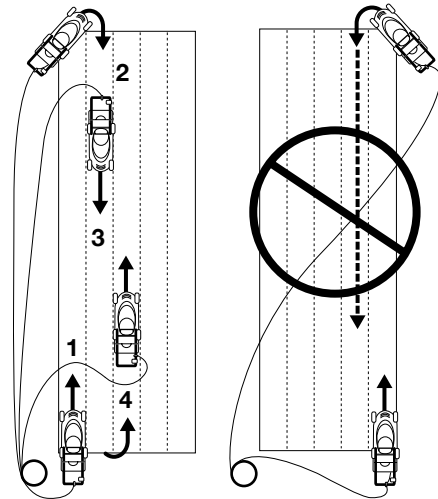

Figure 12
5. Depress the safety lock-off button (A) and pull the switch lever (B) towards you.
- A. Proceed to cut as shown in Fig 12, working from position 1 towards position 2.
- D. Proceed as shown in Figure 12, always working away from the electric extension cable.